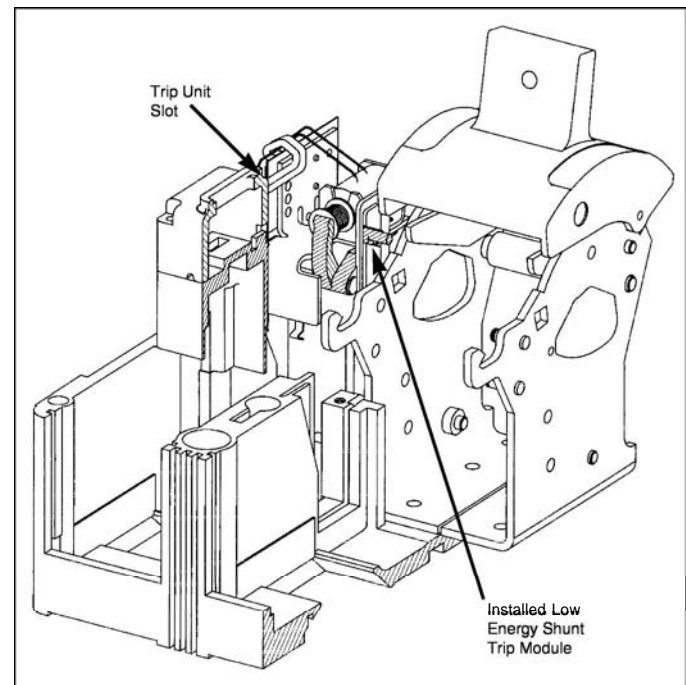

Figure 2-3 Installing Intermediate Plunger and Shunt Trip.
- 2-7. Install LEST as described in the following steps (Figure 2-3):
- a. Remove barrier from trip unit accessory mounting slots in pole being used for accessory (see Figure 2-3).
- b. Position intermediate plunger in trip unit (Figure 2-3).
- c. Press intermediate plunger into recess in trip unit, and hold in position. Slide LEST plug-in module into slots (Figure 2-3) until retaining clip snaps into trip unit. For terminal block assemblies, slide terminal block into mounting slot on side of base as plug-in module is properly positioned.